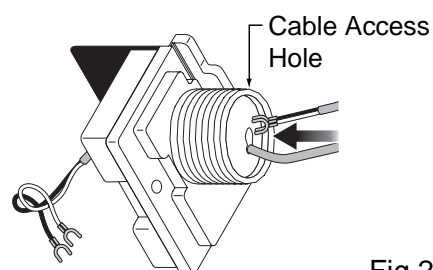

Fig.2
9. To access the cable screws rotate the Quick Cable Connector 90° (Fig. 2)
10. Insert wire cable through the Cable Access Hole (Fig. 2)